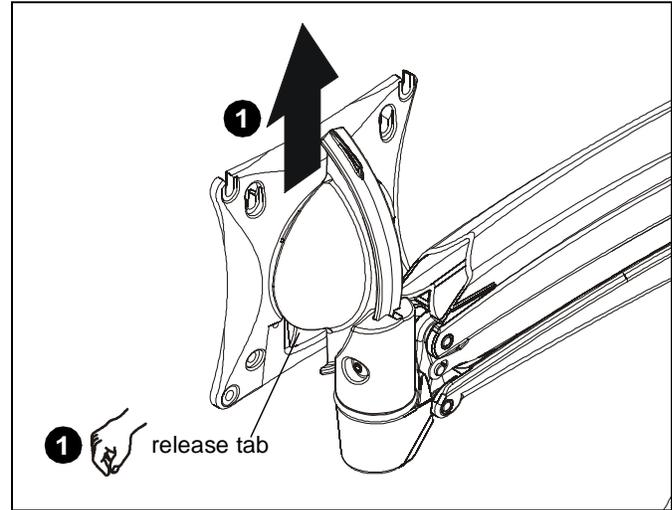

Figure 3
1. Remove quick connect faceplate from mount by pressing release tab and sliding faceplate off mount. (See Figure 3)